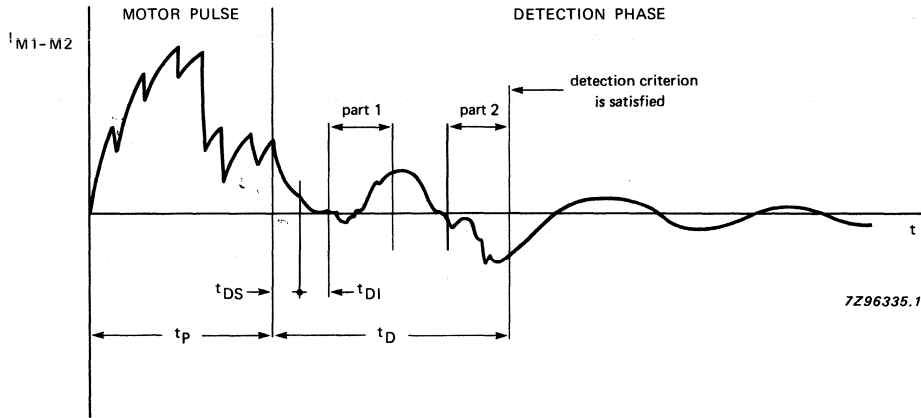

Fig.7 Typical current waveform of a successfully executed motor pulse.
Detection criterion (Figs 7 and 8)
- N = 3 number of measured positive current polarities since the first negative current polarity is detected after part 1 (see Fig.7).